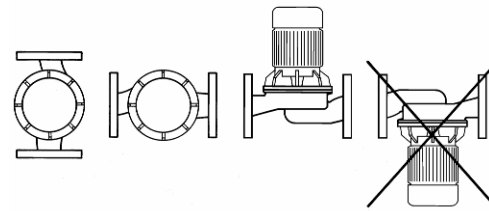

Fig. 1 Pump installation
1. The pump must be installed as shown in Fig. 1. direction of flow through the pump casing is indicated by an arrow.